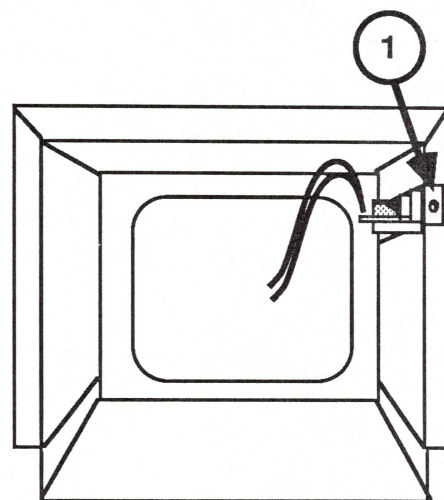

FIGURE 4
9. Locate the on/off switch inside the rear cover (see Figure 4). It is mounted on a plastic bracket which is attached to the side of the rear cover.
10. Remove the screw (Figure 4, #1) which secures the plastic bracket to the rear cover.